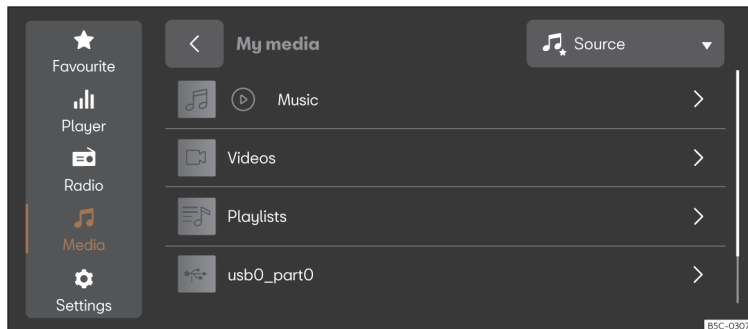

Fig. 182 Schematic representation: Media view
- Press **MENU** > > >>> **Fig. 182**.